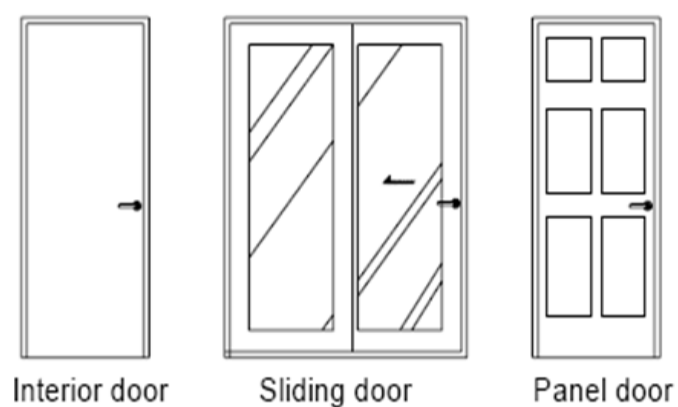
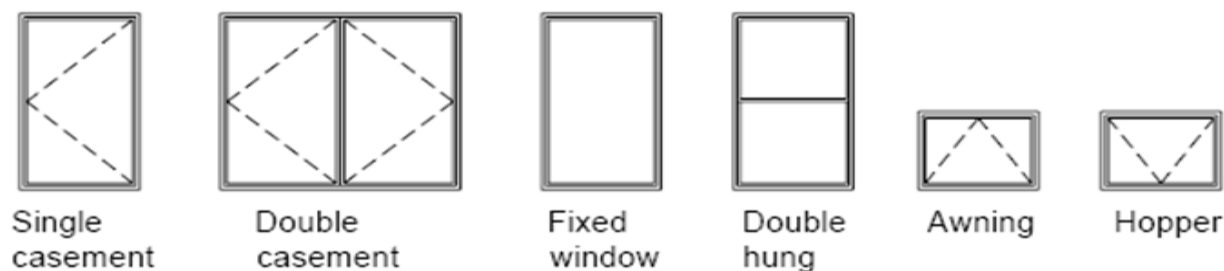

Figure 1.2 Doors symbol
Figure 1.3 Windows symbol
1.1.2 Door and window symbols see Figure 1.2 and Figure 1.3